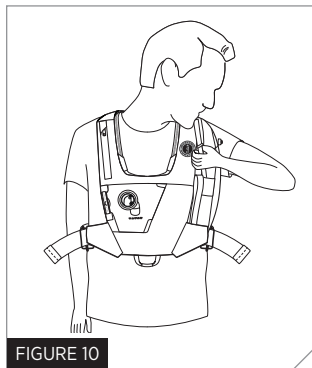

FIGURE 10
- You pull open the left side of your PFD to locate the oral tube and blow air into your PFD (Fig. 10).